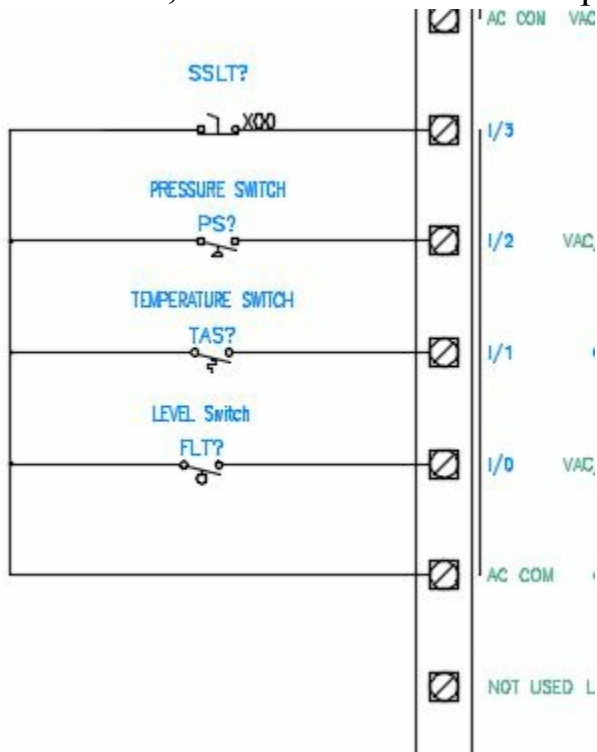

Figure-59. Wirebus after connecting components
- Similarly, you can add the other components in the wire bus. After connecting all the components in the wire bus, the schematic will be displayed as shown in Figure-59.